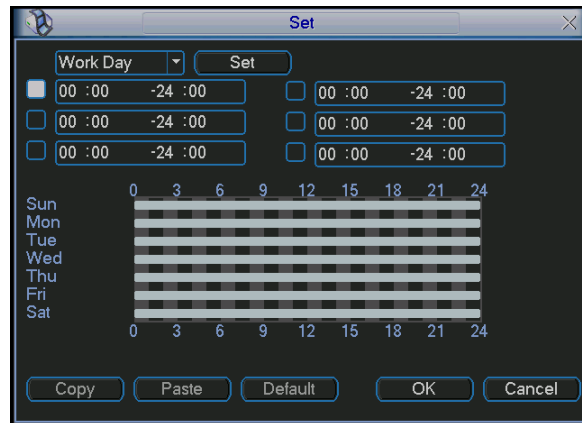
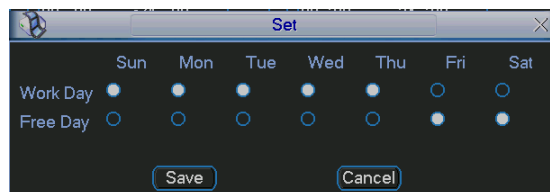

Figure 5-53
Figure 5-54
- Period: Click set button, you can see an interface is shown as in Figure 5-53. Here you can set for business day and non-business day. In Figure 5-53, click set button, you can see an interface is shown as in Figure 5-54. Here you can set your own setup for business day and non-business day.